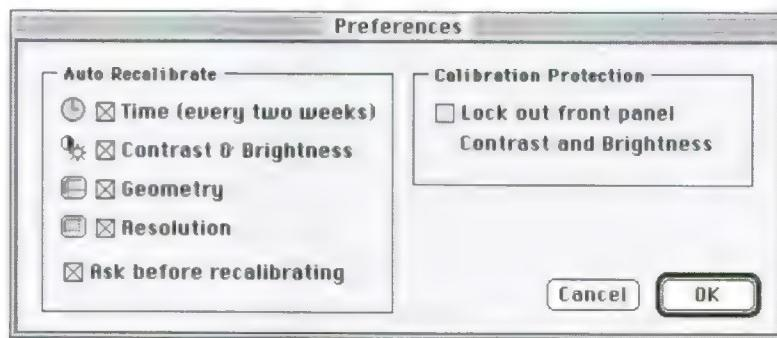

Figure 29. AudioVision Setup Control Panel Recalibration Preferences
3. Click the Preferences button (see Figure 25E). A "Preferences" window appears (see Figure 29).
4. Select the recalibration preferences (see Figure 29).